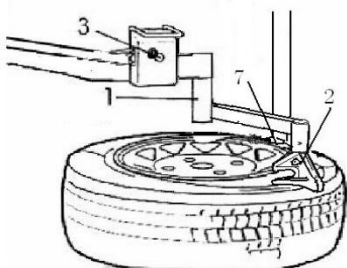

Fig 15
- a- Close the demount/mount head (7, Fig15) near from the tire as the manual stated. Move the rotating arm (1, Fig 15) to its working position.
- b- Move the tire pressing head (upper) (2, **Fig 15**) near from the demount/mount head, down the rise-fall switch handle to press the bead with the tire pressing head (upper) so as to place the demount/mount head. Insert the lifting lever according to the instruction of tire changer;